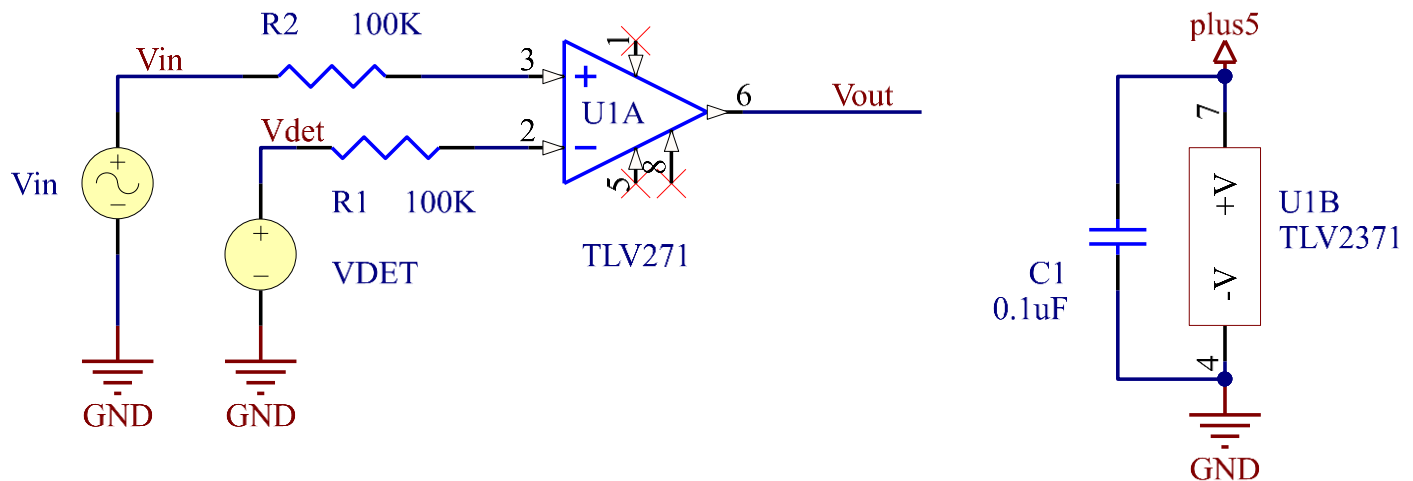

Figure 4: Comparator circuit with a single supply voltage of 5V.
- Use a 2 V_{PP}, 100Hz sine wave for Vin input signal for the circuit in Fig. 4.
- Replace R2, Fig 4 with the RC network you designed in the pre-lab.